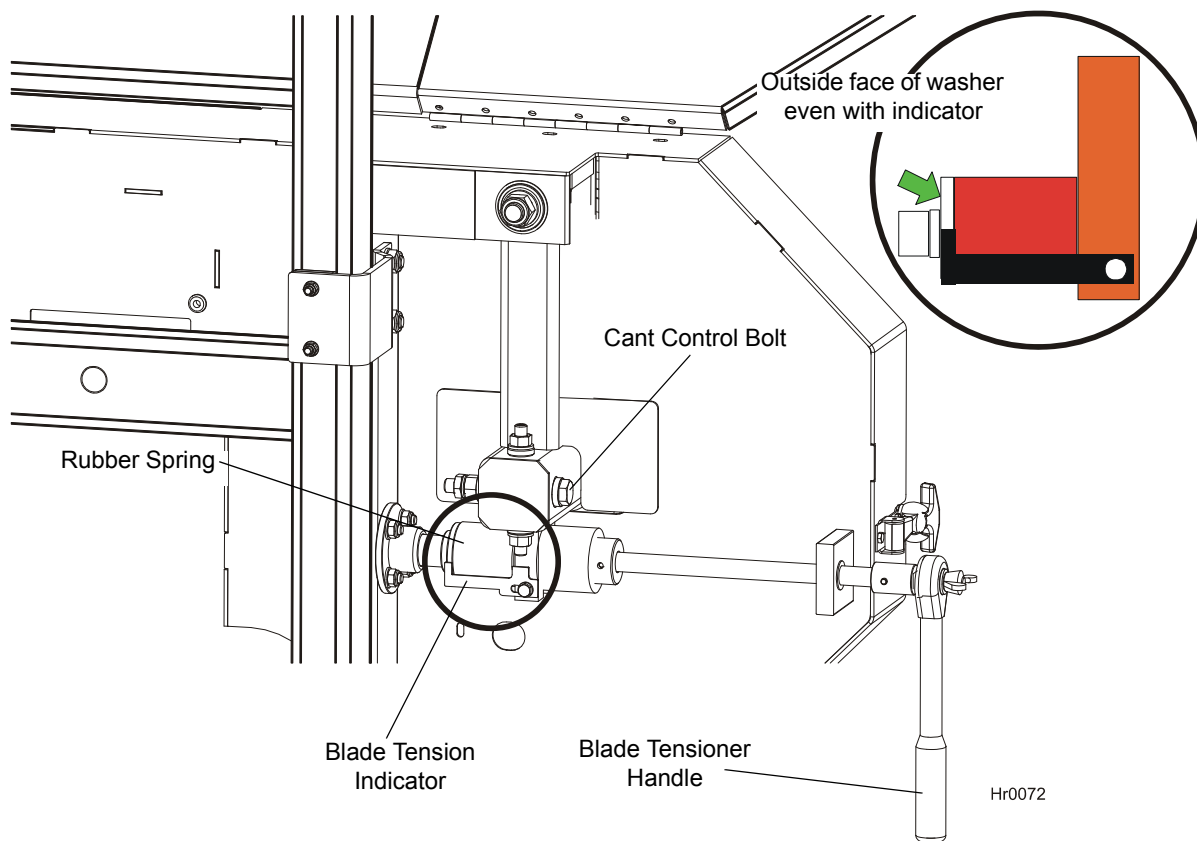

FIG. 2-3
**See Figure 2-3.** Place the provided handle on the blade tensioner shaft. Turn the blade tension handle clockwise to compress the rubber spring and tension the blade. Check the blade tension occasionally when adjusting the cant control or while cutting. As the blade and belts heat up and stretch, the blade tension will change. Also, ambient temperature changes can cause tension to change. Adjust the tension handle as necessary to keep the rubber spring washer aligned with the indicator.